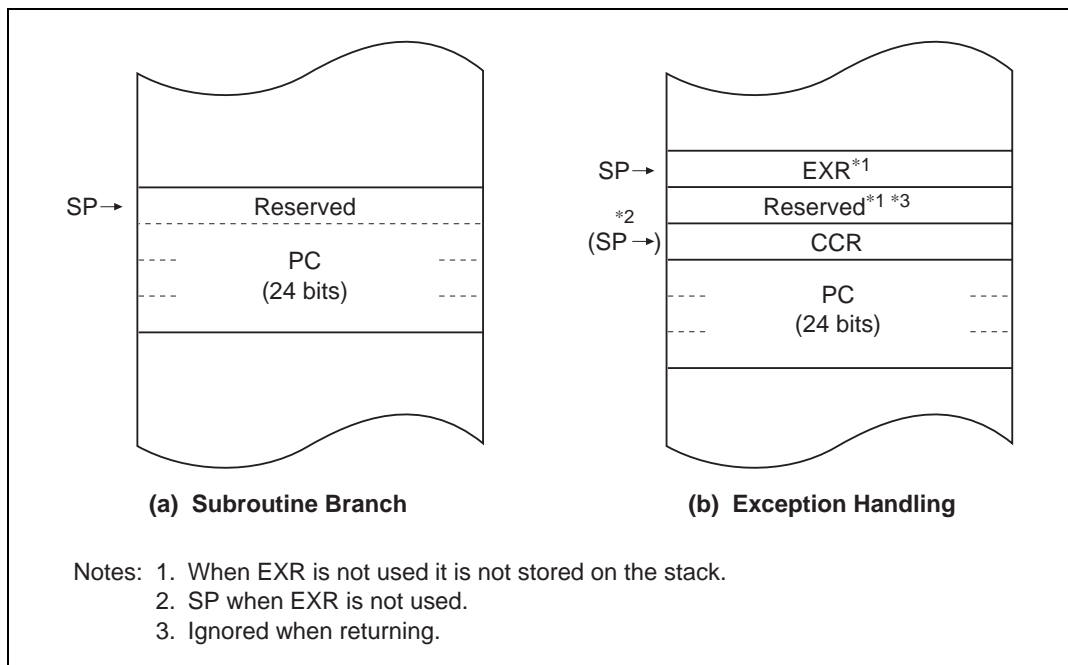

Figure 2.2 Stack Structure in Advanced Mode
Stack Structure: In advanced mode, when the program counter (PC) is pushed onto the stack in a subroutine call, and the PC, condition-code register (CCR), and extended control register (EXR) are pushed onto the stack in exception handling, they are stored as shown in figure 2.2. When EXR is invalid, it is not pushed onto the stack. For details, see section 4, Exception Handling.